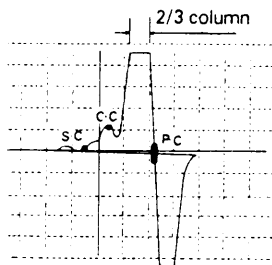

Fig 4.
- 4: Adjust VL202 until the P.C. becomes to the RF REFERENCE voltage line on the Alignment Scope waveform, see fig. 4.